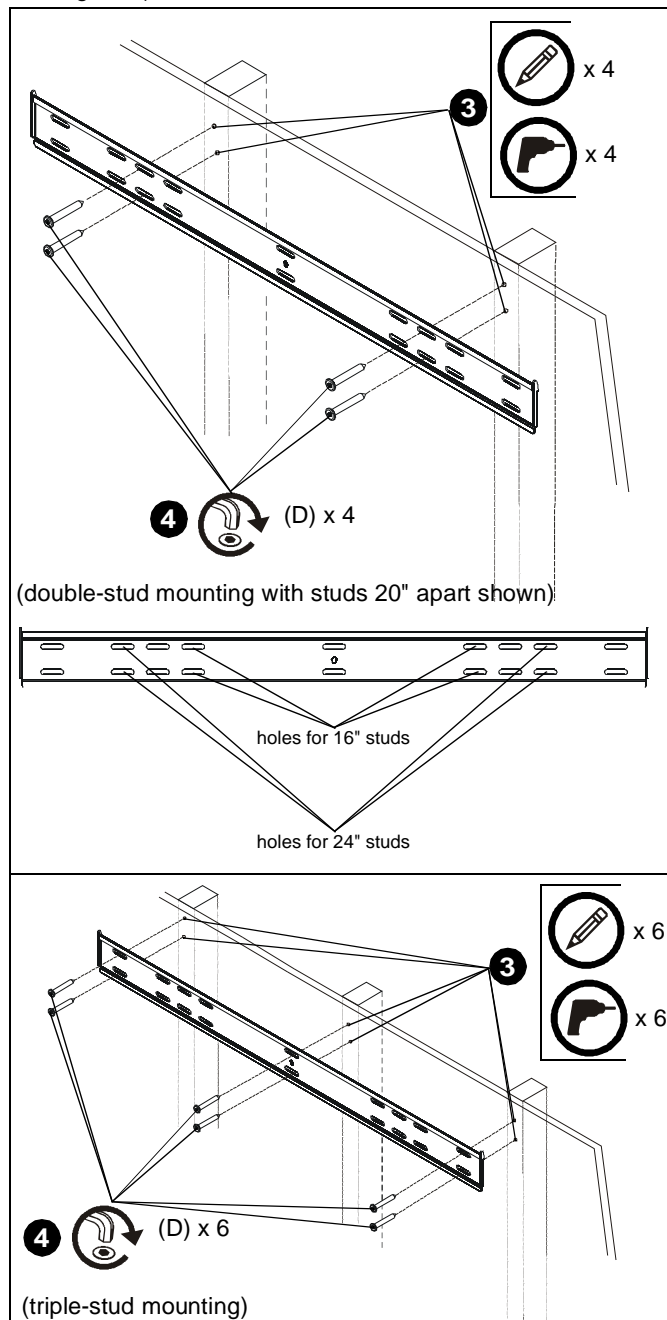

Figure 1
3. Using wall plate as template, mark and then drill four or six (for triple-stud mounting) 3/16" diameter pilot holes through mounting surface, making sure the holes are centered in the middle of each stud. Holes must be drilled at least 2-1/4" deep. (See Figure 1)
4. Install four or six connector screws (D) through wall plate and into pilot holes using M4 Allen Head bit (C). (See Figure 1)